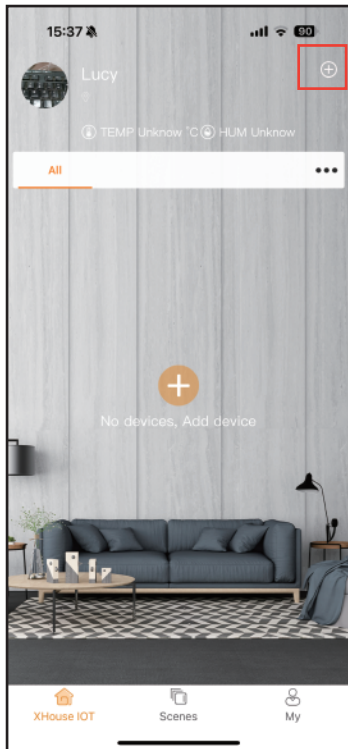

Fig 1
Step 1. Power on the device, open the APP. Press the "⊕" on the top right corner to add the device, then select the "Swinging Gate" which has a orange cycle on the top right corner. (Fig 1 and 2)